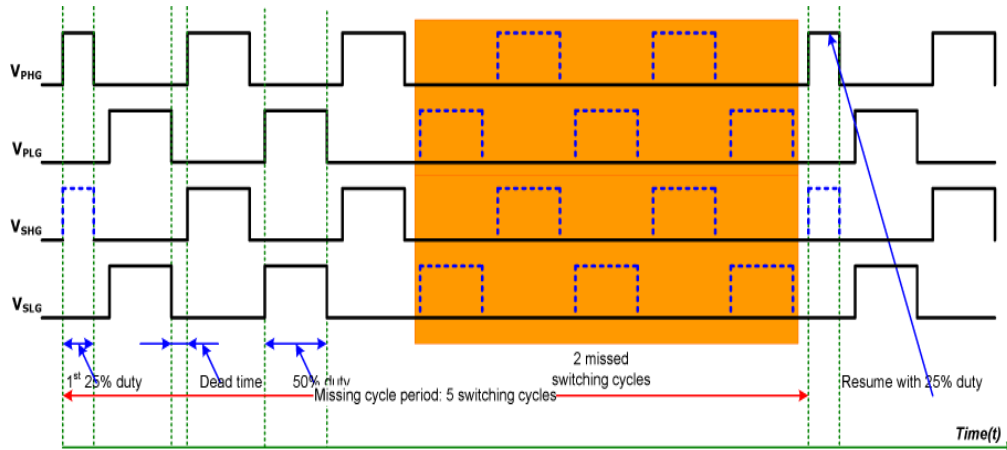

Figure 11 ICE2HS01G gate output during Missing Cycle
If the current sense voltage is lower than the preset reference level on V_{mc} pin for 20ms, IC enters into a Missing Cycle (MC) mode, where every two out of five switches are removed to reduce the average switching frequency. V_{ref} pin is the output of internal reference voltage, which is an accurate 5V voltage source, with up to 2 mA. A typical output gate drive waveforms in MC mode is shown in Figure 11.